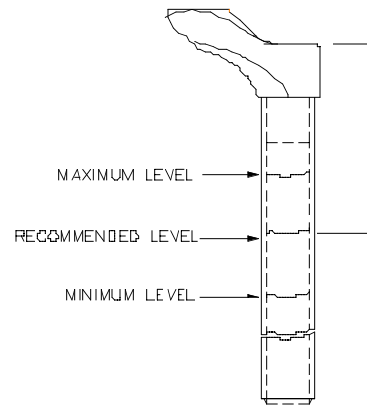

FIGURE 8: TPC OIL LEVEL
To check the oil level remove only the compression damping assembly located in the top of the left leg. Leave the right side compression stack (adjuster, MCU, spring assembly) in place to keep the fork fully extended. Use a tape measure or "dip stick" to determine the oil level. Oil level should be between 3.5" (89MM) and 5.75" (146MM) below the crown where the damping assembly screws in. The recommended level is 4.75" (120MM). Use SAE 5WT Maxima fork oil or equivalent. Figure 8
8. Add approximately 100CC of 5WT Maxima or equivalent oil. Do not over fill. Check oil level, see Figure 8.